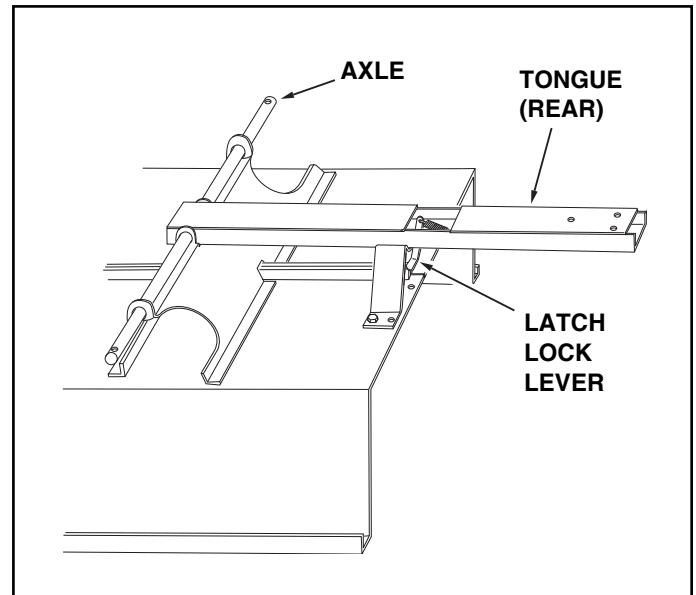

FIGURE 6
- Position the rear tongue on the wheel support and the latch stand bracket. Assemble the axle through the wheel support and the tongue. See figure 6.